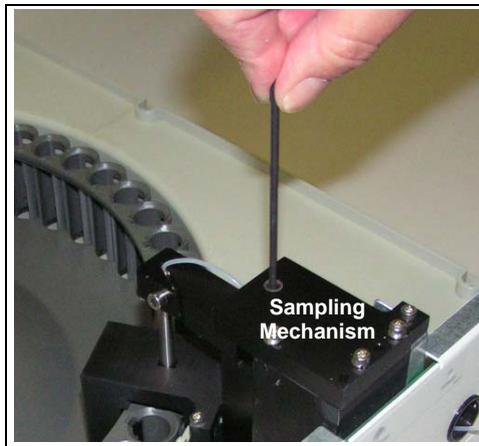

Figure 5-11. Manually Raising the Sampling Head
4. Insert a 2.5-mm Allen wrench into the screw on top of the sampling mechanism (see Figure 5-11) and turn the wrench clockwise. The needle begins moving up.